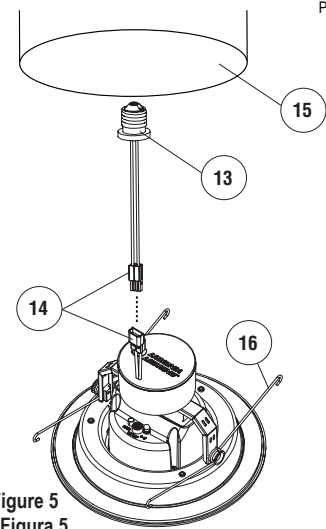
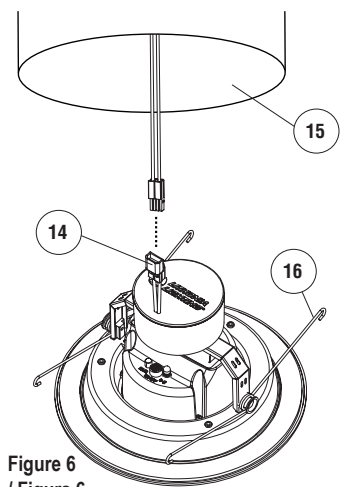

Figure 5 / Figura 5
Figure 6 / Figura 6
- A. E26 Socket Adapter (13) (Figure 5):
1. Screw Adapter (13) into the base socket inside Housing (15).
2. Plug Orange Connector (14) of Adapter (13) into the fixture's mating Orange Connector (14). Or,
- B. LED Connector (Figure 6):
1. Plug Orange Connector (14) from the fixture into the mating LED connector inside Housing (15).